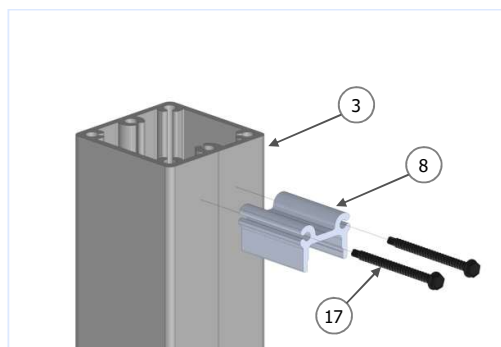

Fig 14A
- Mount the top rail RCB (8) to the post as shown in Figure 14A and fasten using #8 x 2" Hex Washer Tek Screw (17). Do not overtighten.